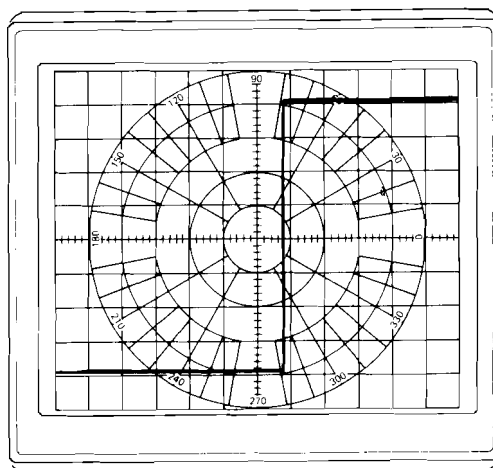

Figure A5-32. Phase Transition Waveform
- o. Connect DVM to A3A12TP9. On A2 Frequency Control, set RANGE MHz switch to .5 — 1300 MHz. Adjust CW FREQUENCY control through the range until a phase transition occurs as shown in Figure A5-32.